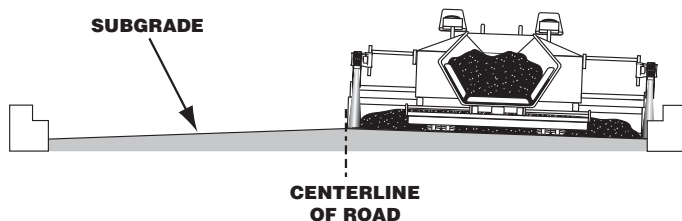

Figure 7-2. Positioning Tracker Over Gutter
2. Position right tracker over lip of gutter and left Tracker past the centerline on the base material (Figure 7-2).